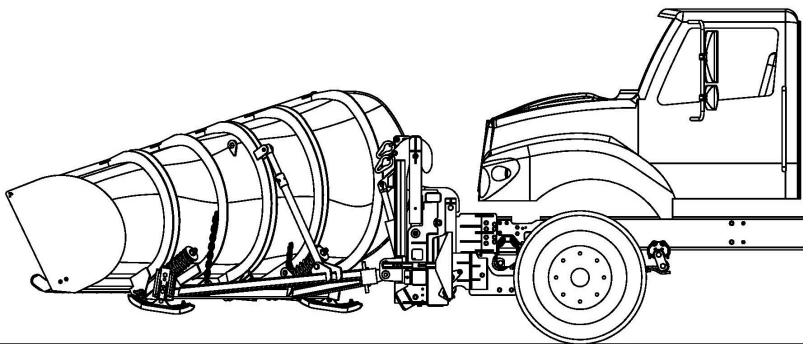

Figure 1: Plow in Fully Raised Position
2. Fully raise plow into the position shown. (See Figure 1)